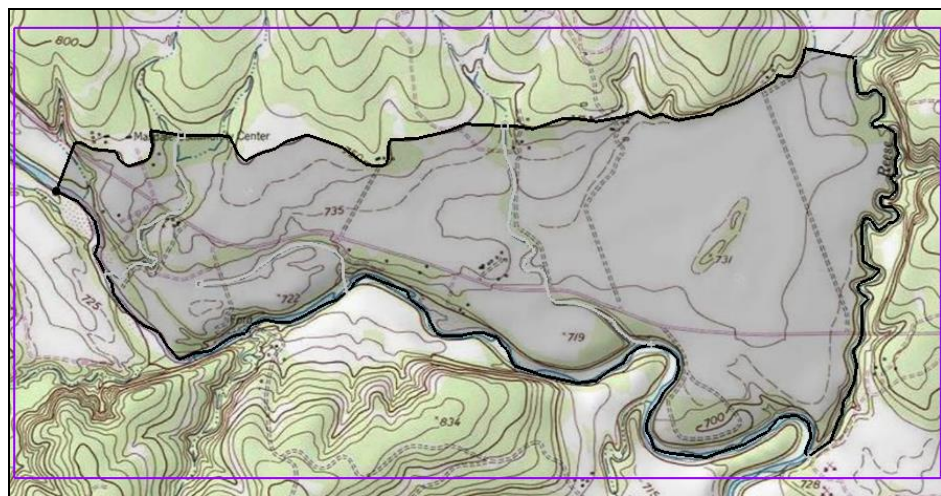

Figure 8 The grid frame is the purple box around the coverage
2. Using the **Select Grid**  tool, right-click on “ Grid Frame” and select **Fit to Active Coverage**. The grid frame will adjust to fit the active coverage entirely within it (Figure 8).